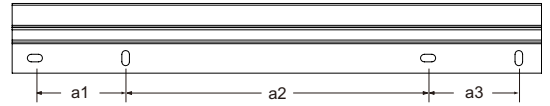

Fig.1
- ① Open the product packaging, and check whether the product has any cosmetic or functional damage; if yes, please return it to the dealer.
- ② After selecting the location of the mirror cabinet, check whether the wall is solid, measure the distance of the holes (a1,a2,a3) in the aluminum alloy bar with a tape measure and mark the wall with a level and pencil (Fig. 1).
- ③ Drill holes in the marked positions with a suitable drill bit.